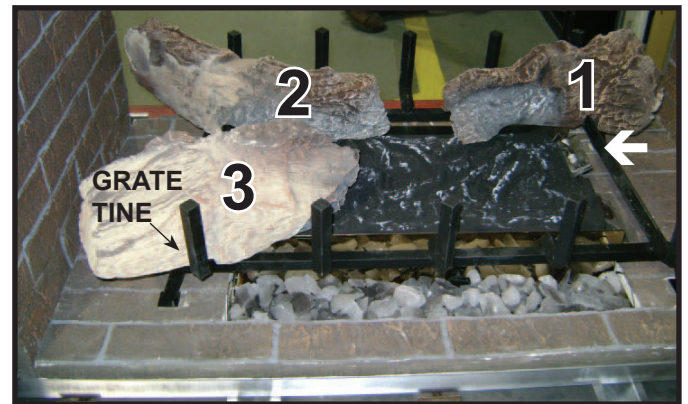

Figure 9. Reverse View
**LOG NUMBER 3 (SRV2146-703):** Place Log #3 so that groove on bottom of log engages the grate bar. Push log back so that it rests against grate tine as shown in Figure 9. The “burnt” end of the log rests on the burner. The log must **NOT** block any burner ports.